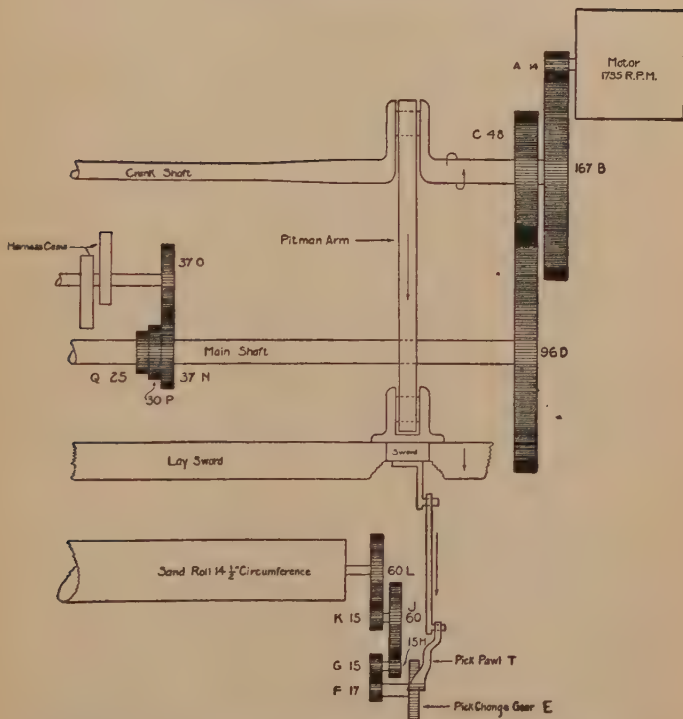

Figure 1. TAKE-UP GEARING OF A LOOM WITH A PICK PAWL TAKE-UP
1. While the crank shaft in figure 1 is making one complete revolution, how many picks does the loom put into the cloth? Why?
2. If the speed of the motor in figure 1 is as shown, calculate the number of picks per minute that the loom makes.
3. Suppose that instead of gear *B* (figure 1) we have a  $14\frac{1}{2}$ " pulley which is driven by an overhead pulley making 150 R.P.M. What size pulley must we use overhead to obtain at least the number of picks found in problem 2?